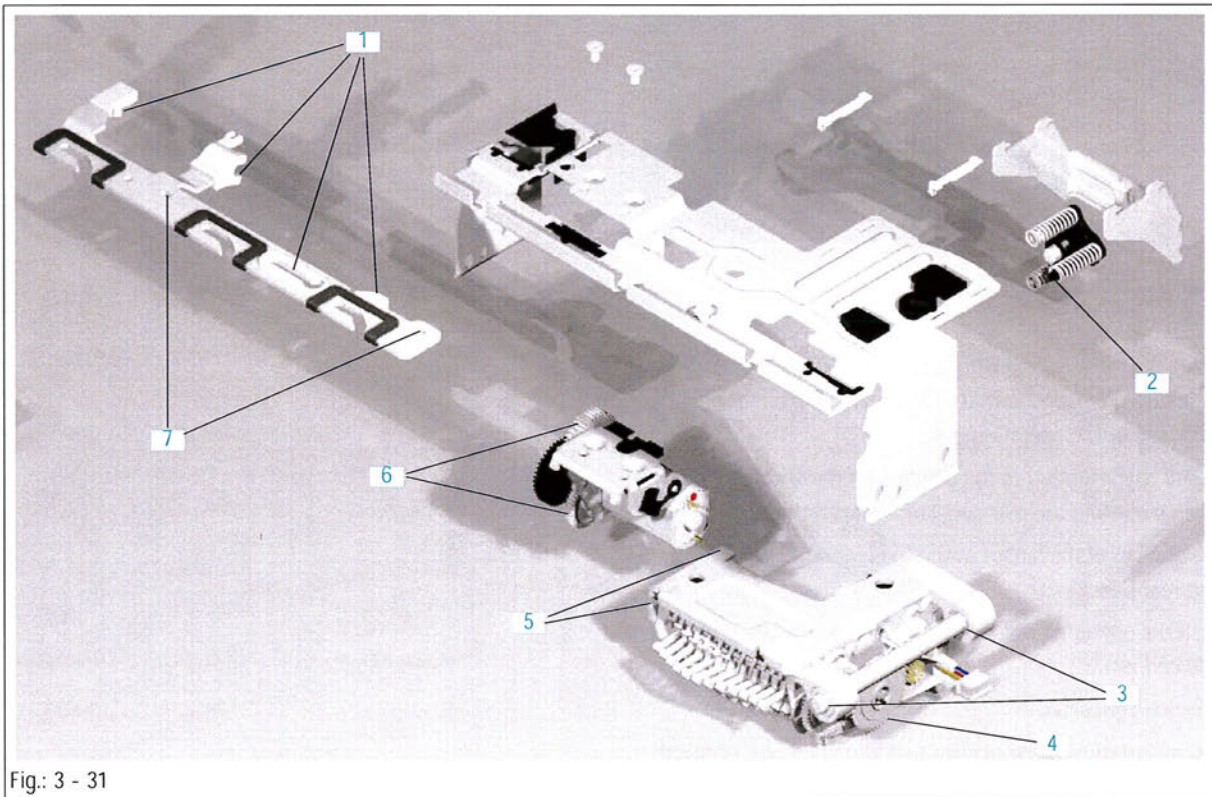

Fig.: 3 - 31
Legend to fig. 3 - 31:
- Plastic guides (Fig.: 3 - 31 / Item 1) of the door bolt
- Spring bearings and dovetail of the spring holder (Fig.: 3 - 31 / Item 2)
- Guide (6 mm straight pin) of the pump frame at the bearings (Fig.: 3 - 31 / Item 3)
- Toothed wheels (Fig.: 3 - 31 / Item 4) of the pump drive
- Movement areas (Fig.: 3 - 31 / Item 5) of the pump frame